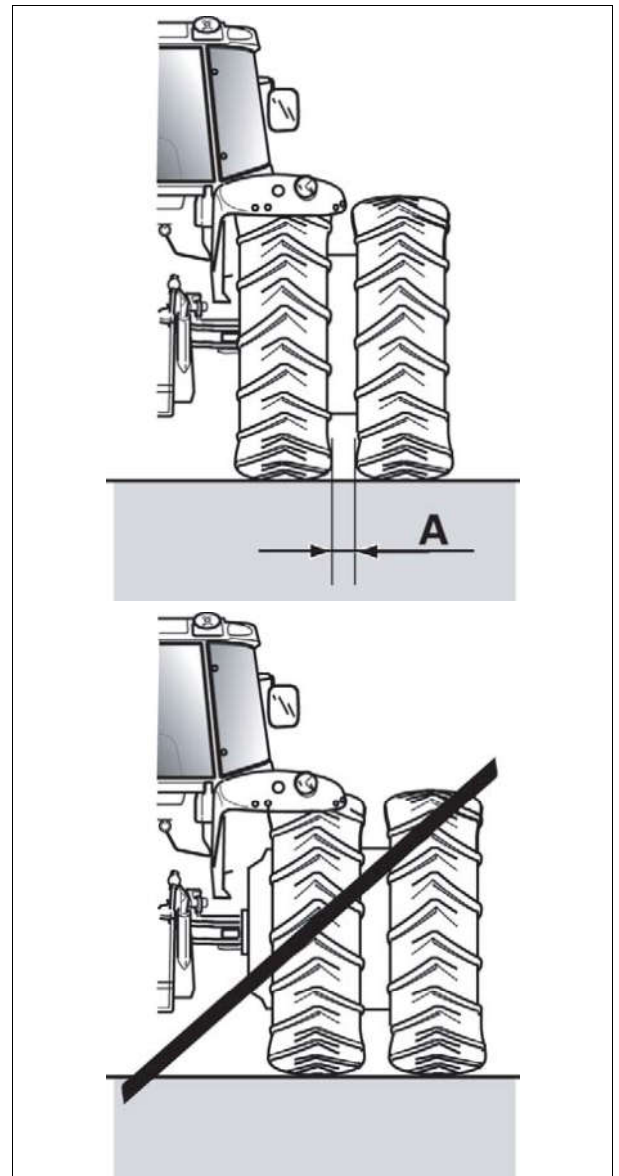

Fig. 5.
- Set the inner wheels to minimum track width *fig. 5*.